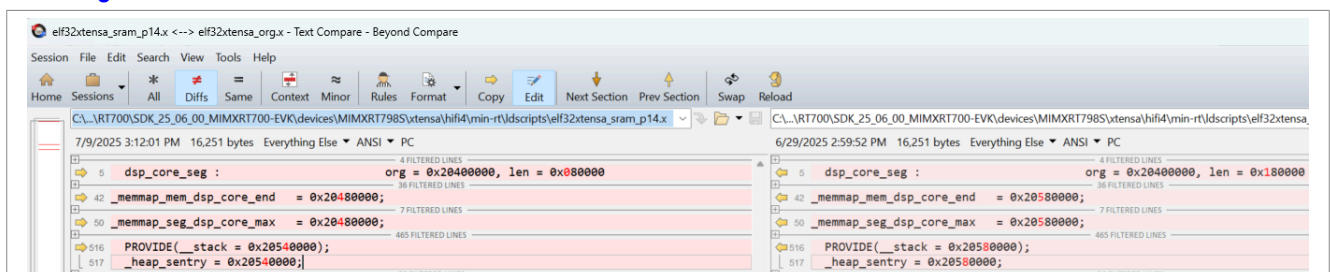

Figure 5. Comparison between default and modified linker files
- Figure 5 shows the difference between the default and modified versions.